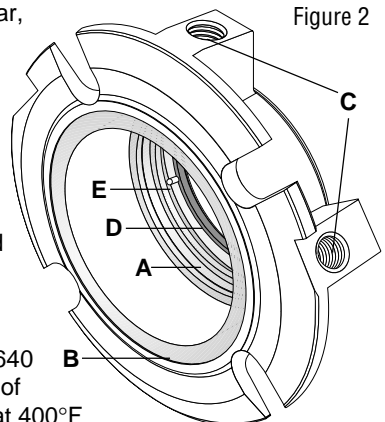

Figure 2
3.2 Gland Assembly (1) (Figure 2)